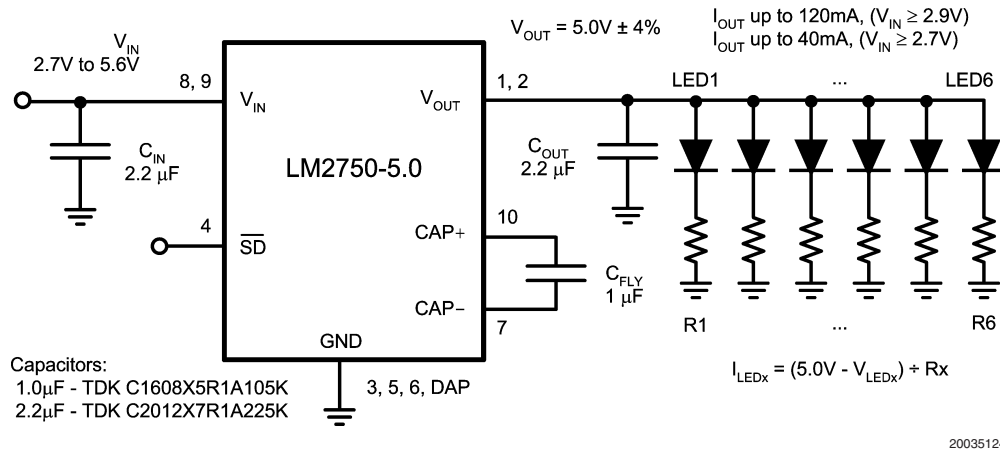
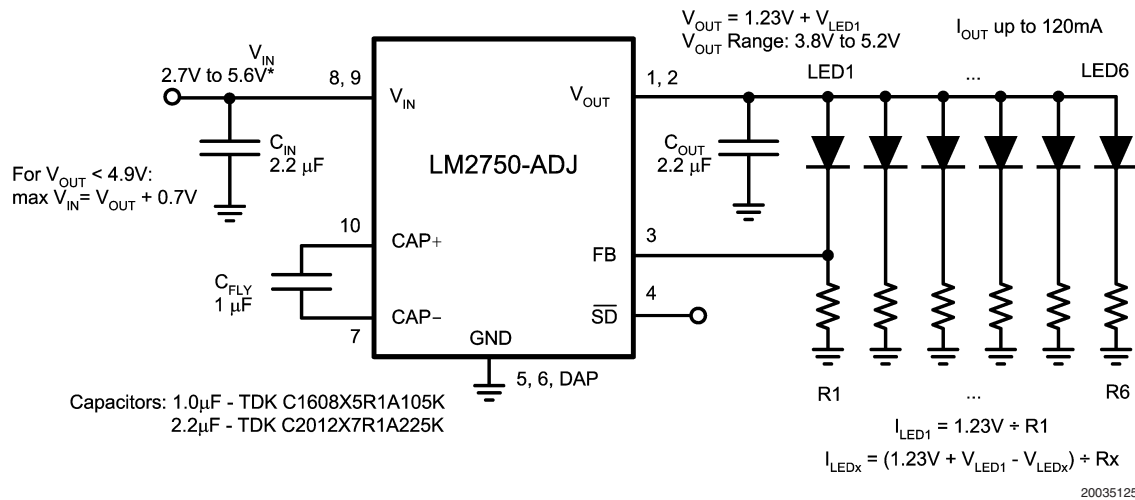

FIGURE 5. LM2750-5.0 LED Drive Application Circuit
FIGURE 6. LM2750-ADJ LED Drive Application Circuit
The LM2750 is an excellent part for driving white and blue LEDs for display backlighting and other general-purpose lighting functions. The circuits of *Figure 5* and *Figure 6* show LED driver circuits for the LM2750-5.0 and the LM2750-ADJ, respectively. Simply placing a resistor (R) in series with each LED sets the current through the LEDs:
The feedback pin of the LM2750-ADJ can be utilized to help better control brightness levels and negate the effects of LED forward voltage variation. As shown in *Figure 6*, connecting the feedback pin to the primary LED-resistor junction (LED1-R1) regulates the current through that LED. The voltage across the primary resistor (R1) is the feedback pin